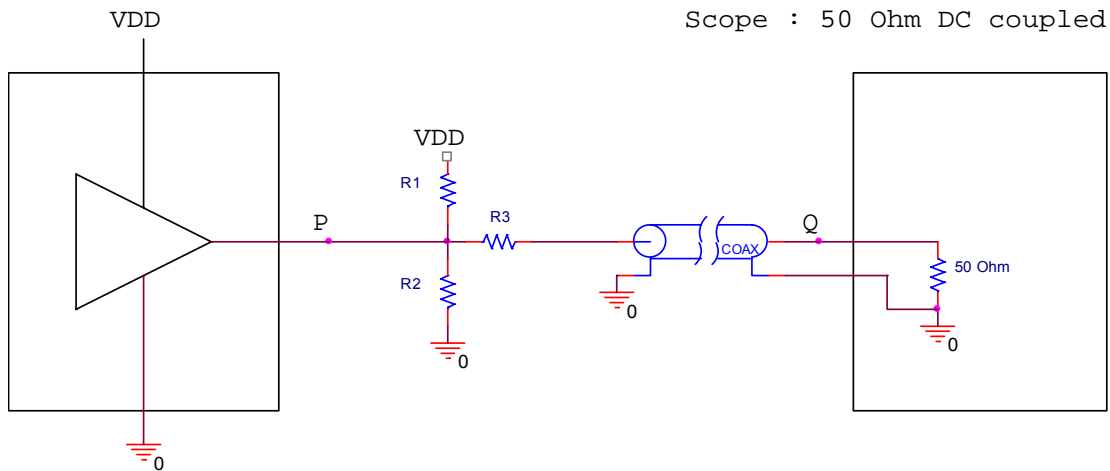

Figure 2 Recommended Method of PECL Output Testing with a Single Power Supply
A transformation network that will let the PECL output see a 50 ohm to VDD-2V termination and at the same time allows the scope to match impedance with a 50 ohm cable to IC ground is needed. Figure 2 provides a method of testing PECL outputs when using a single power supply that matches the impedance between the scope and the IC ground.
Step 2: We would like to see a simple ratio of voltage amplitude between V_P and V_Q for convenience (see figure 2). Therefore, we choose $R3 \approx 450$ ohm so that $V_Q/V_P \approx 50/(450+50) \approx 1/10$. It is relating measured amplitude to true amplitude by a simple factor of 10.